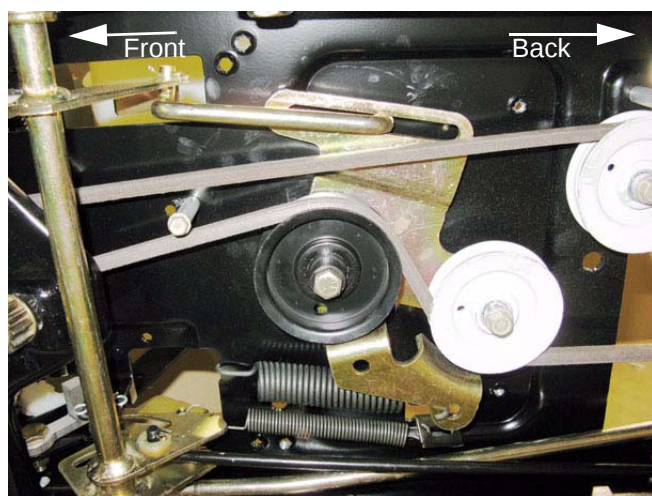

Figure 5.60
- Correct routing. See Figure 5.60.